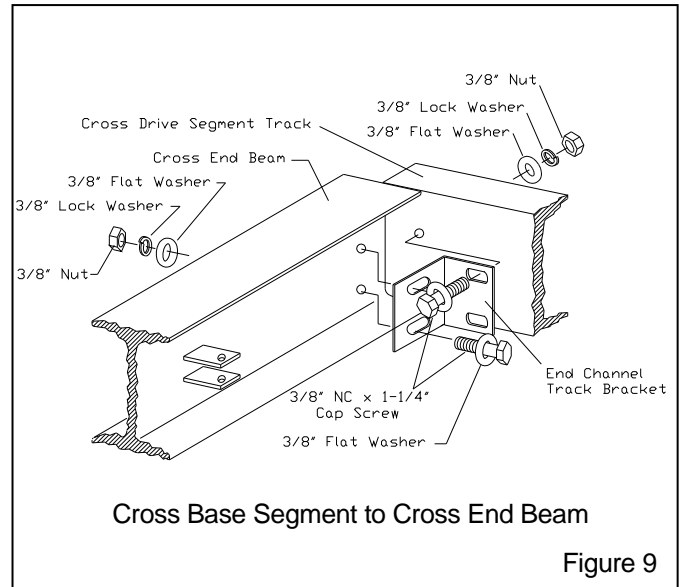

Figure 9
2.4.4 Lay the 18-inch cross conveyor end beam at the end of the cross-conveyor base-segment track. Use an end-channel splice-bracket, and loosely bolt the end beam to the track as shown in Figure 9.